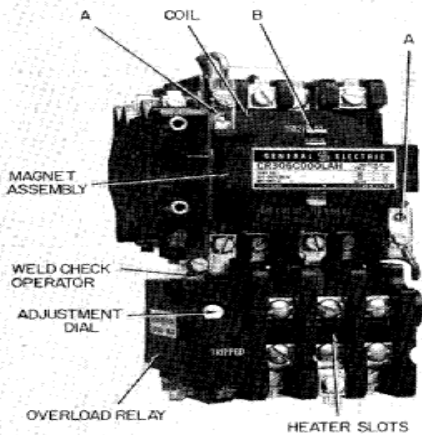

Figure 1. Typical 300/400-Line magnetic starter
2. Press against coil while pulling up slightly on coil retainers (A—Figure 1) and move retainers away from coil.
4. Withdraw spring clip (B—Figure 1) and remove armature from movable arm.
Note: For starters with one or more normally closed contacts, perform steps 1 and 2 shown under Coil Replacement. Withdraw spring clip (B—Figure 1) and remove armature, coil, and magnet from device. Remove return spring from center of movable arm. Remove molded cover and stationary contacts before lifting movable arm from device.
5. The ultimate tripping current of the installed relay heater can be adjusted $\pm 10\%$ by using the adjustment dial, shown in Figure 1.